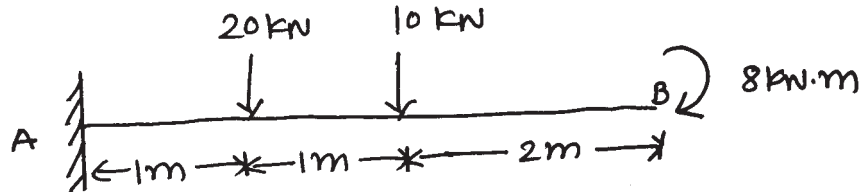

Fig. No. 02.
- d) Determine bending moments at 1.5 m from fixed end for beam shown in Fig. No. 02.